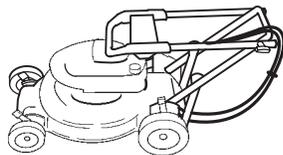

Figure 33
2. Carefully swing the upper handle forward until it rests on the engine (Fig. 33).